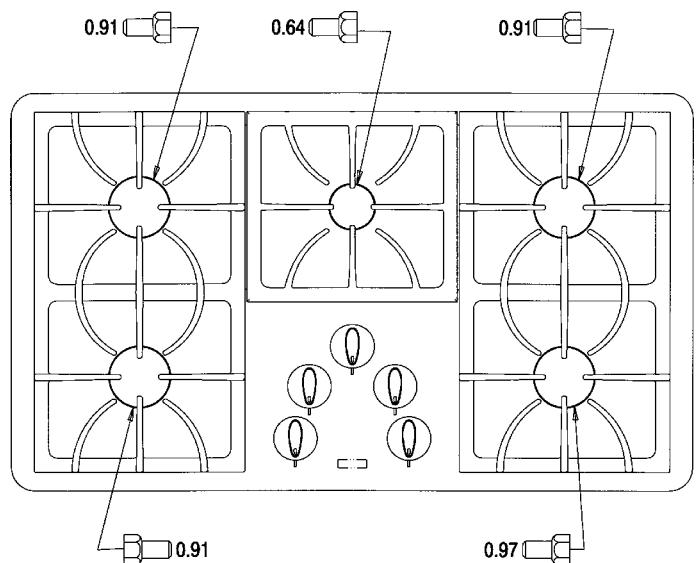

FIGURE 9
Step 4: Locate the LP orifice spud packet included in the literature packet. The spuds have small numbers stamped on the side. This number codes the orifice diameter and its correct burner location. Figure 9 and 10 show the correct LP orifice spud location.